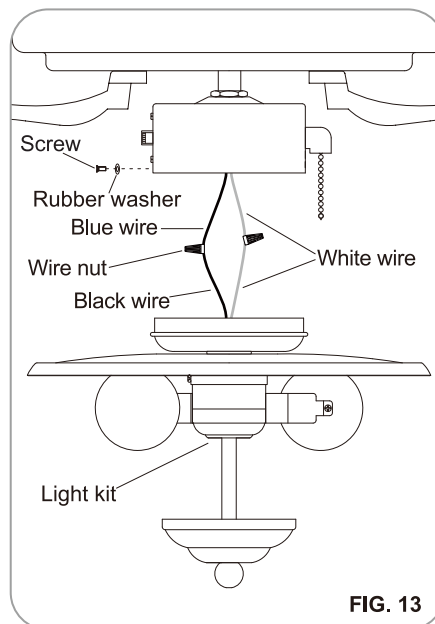

FIG. 13
Step 4: While holding the switch box plate, slide the switch box plate up against the switch box and align the screw holes. Secure the switch box plate to the switch box using the screws and rubber washer removed earlier. (Fig.13)